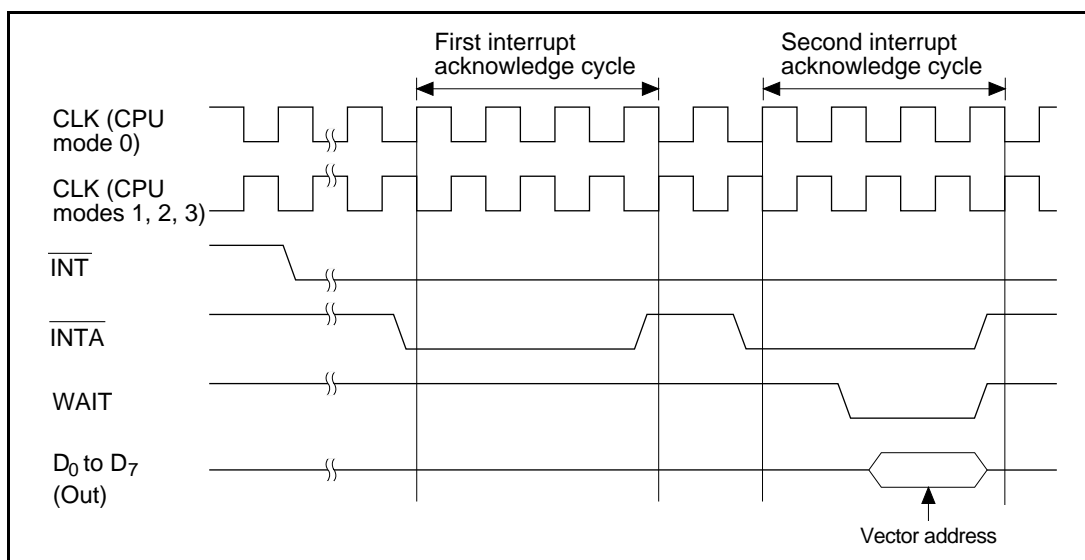

Figure 4.3 Timing Sequence of Double Acknowledge Cycle
3. Double acknowledge cycle: The first active (low) $\overline{\text{INTA}}$ input is ignored; the data bus is left in the high-impedance state. The IVR or IMVR contents are output on the data bus at the second active (low) $\overline{\text{INTA}}$ input (figure 4.3).